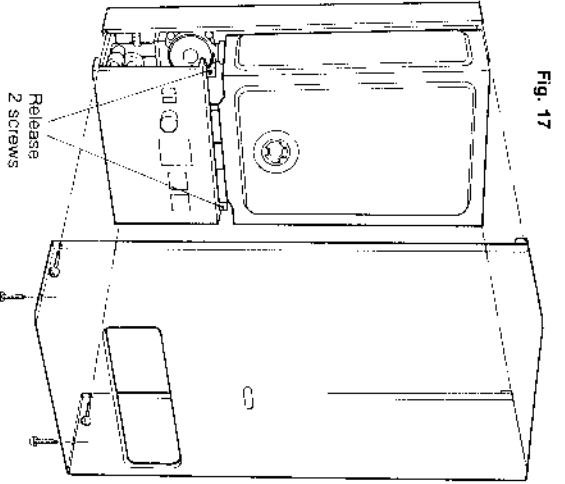
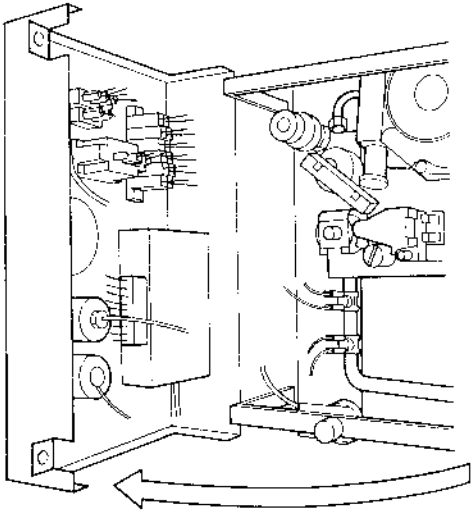

Fig. 17
Fig. 18
To remove components access to the interior is essential. Refer to figs 17 & 18. Ensure electricity supply is isolated before carrying out any servicing.
Release 4 retaining screws (fig 17).
8.4.2 To open control fascia release 2 screws (fig 17) at the top of the fascia and swing down (fig 18).